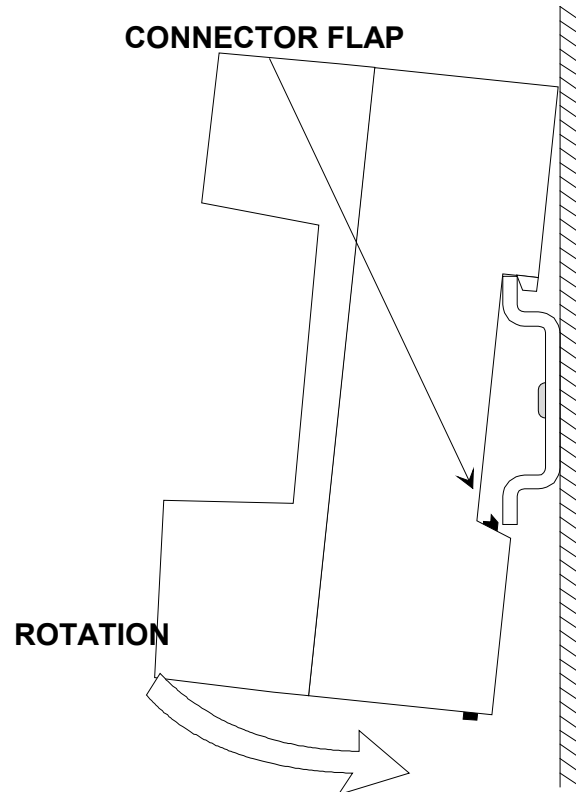

Figure 11 – Mounting on the DIN Bar
2. Push until you hear the connector flap make a click on the support bar (see Figure 11 – Mounting on the DIN Bar).